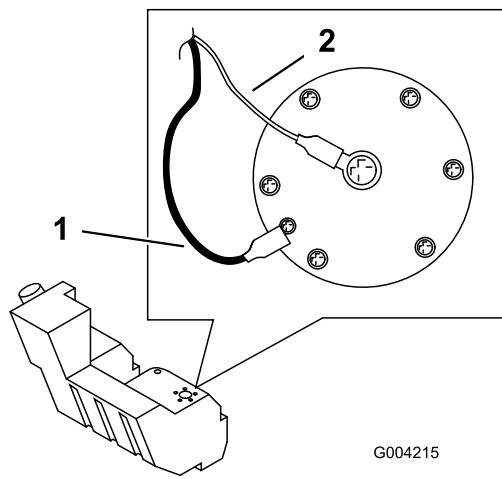

Figure 55
12. Disconnect the two wires leading to the right side of the tank (Figure 55).
19. On the right side of the tank, connect the orange wire to the center post and the black wire to the outside post (Figure 55).